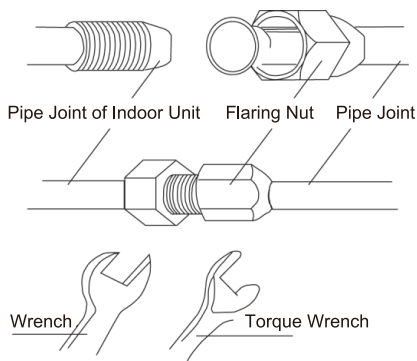

Fig 4.2.1
1. Aim the flaring port of copper pipe at the center of the screwed joint and then tighten the flaring nut with a hand as shown in Fig 4.2.1.